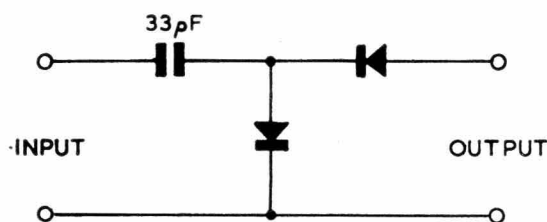

Fig. 1.—Peak-to-Peak Detector.
- (iii) A peak-to-peak detector, as shown in Fig. 1.